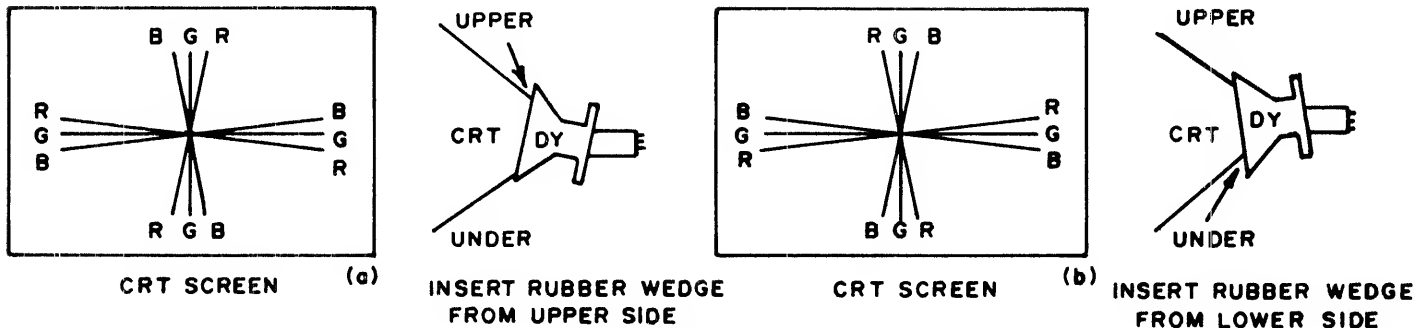

FIGURE 8
- 4.2 Insert a wedge temporarily and fix the Deflection Yoke so as to obtain the best circumference convergence (See Fig. 8 and 9)
- 1) Tilting the angle of the yoke up and down adjusts the crossover of both vertical and horizontal red and blue lines. See Fig. 8 (a) and (b).